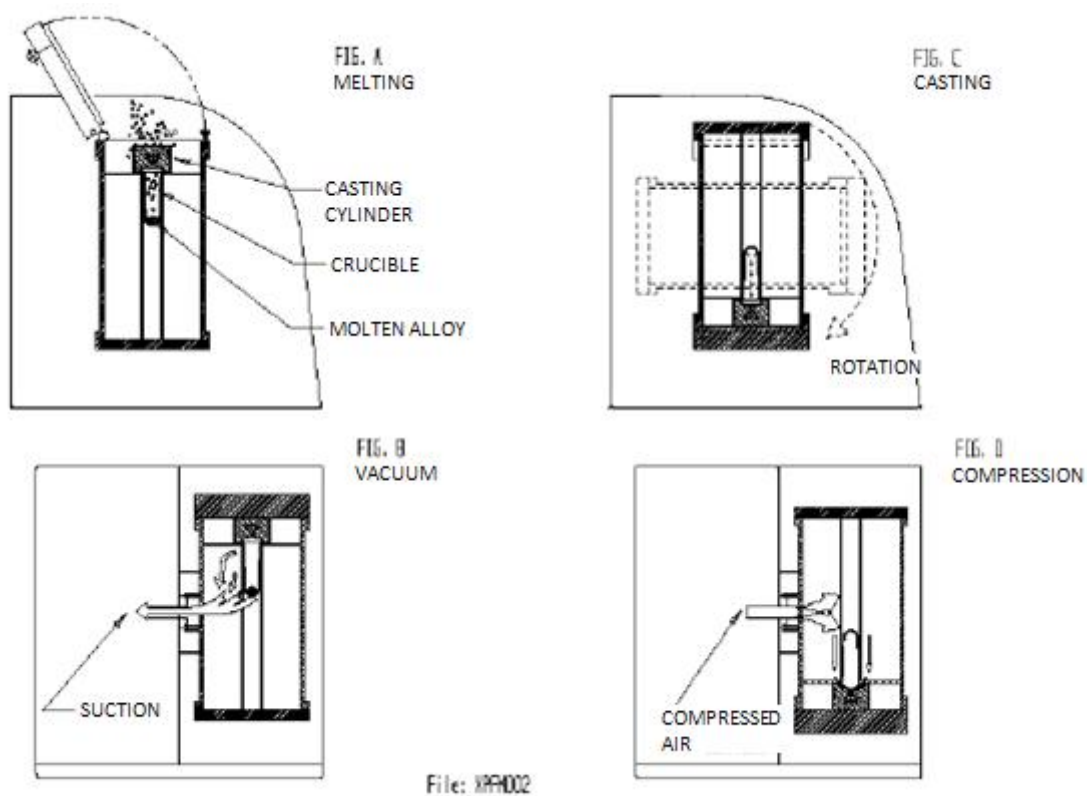

Fig. 6
1) The metal product is melted in a crucible by means of an electric resistance controlled by a microprocessor (FIG. A in Figure 6).
2) The creation of the vacuum inside the furnace: the removal of the air and the fusion gases impedes the formation of blowholes and facilitates the pouring of the liquid metal into the mould (FIG. B in Figure 6);
3) Rotation of the furnace: the metal is poured into the cylinder in a controlled fashion (FIG. C in Figure 6);
4) Pressurisation of the furnace: Once the rotation has been completed, compressed air is emitted into the furnace. The metal, which is still in a liquid state, is pressed into the mould, overcoming any resistances encountered during pouring, and is made to fill even the tightest spaces (FIG. D in Figure 6).